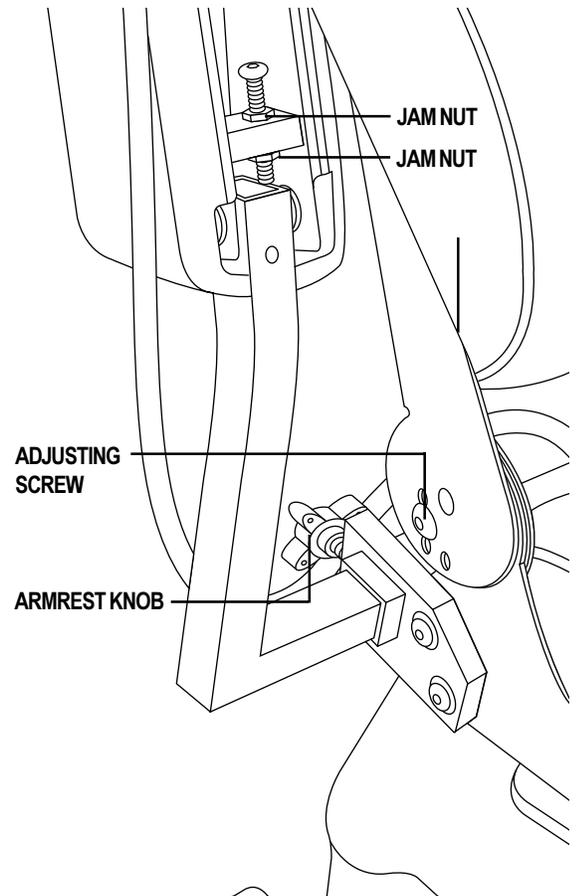

Figure 9. Seatback and Armrest Adjustments
1. Remove the adjusting screws on both seat hinges. See figure 9.
1. Locate the two armrest knobs on each side of the armrest receiver bracket. See figure 9.
2. Loosen the jam nuts. See figure 9.
3. Loosen the adjusting screw. See figure 9.